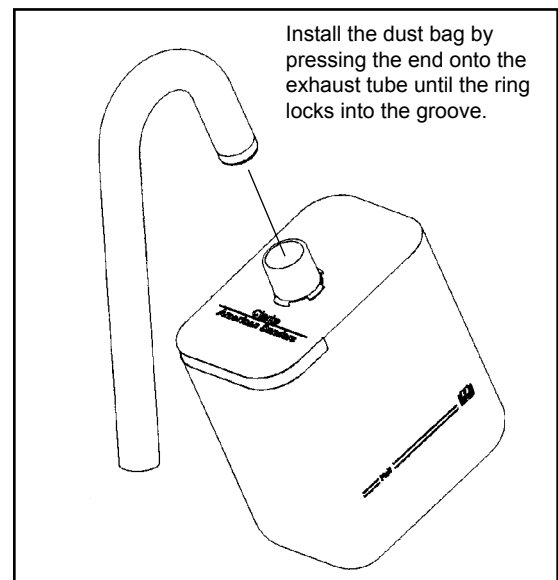

Figure 3
1. Install the dust bag by pressing the end onto the exhaust tube until the ring locks into the groove (figure 3). This is best done by pressing on the back of the bag opening with the palm of your hand.